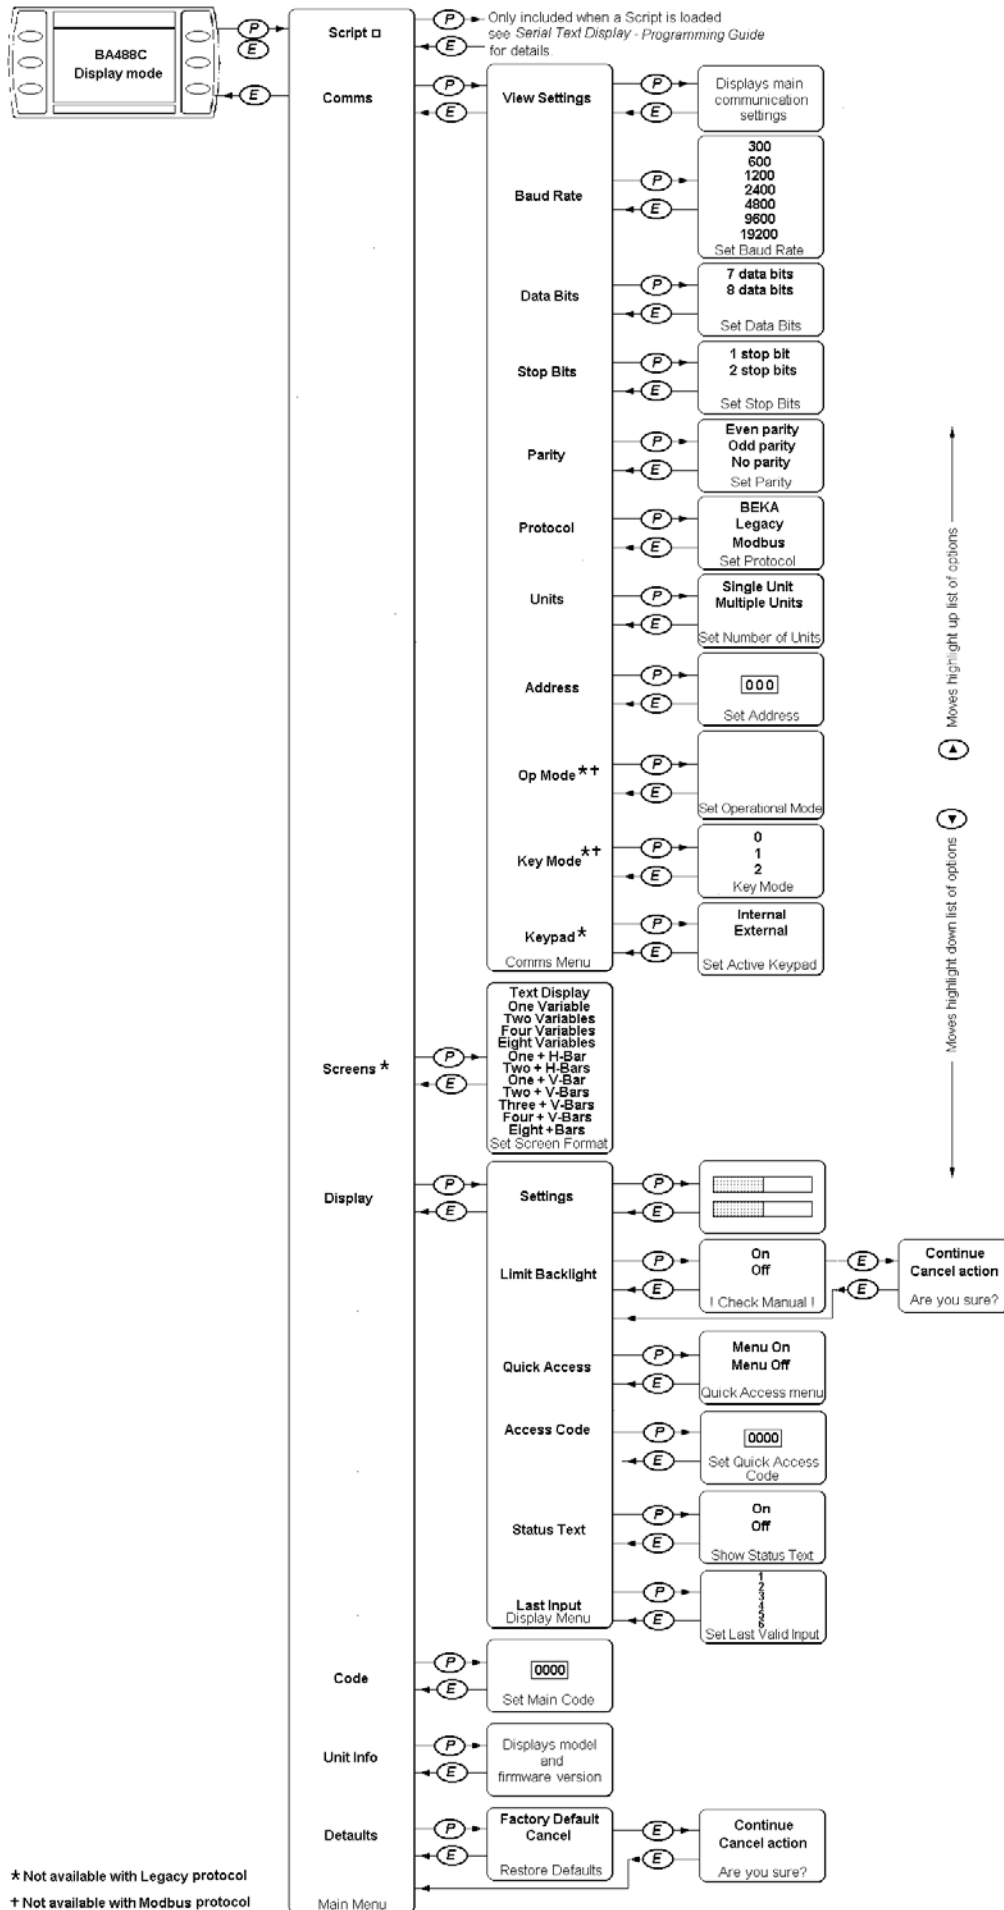

Fig 10 Structure of Configuration Menu
The BA488C is configured via four of the front panel push-buttons. All the configuration functions are contained in an easy to use menu shown in Fig 10. Where necessary the sub-menus contain on-screen prompts to guide the user through each adjustment.
This section provides a brief explanation of each configurable function and should be read in conjunction with Fig 10.
Structure	Fig 10
- To set the instrument's basic communications parameters enter the configuration menu by pressing the *P* and *E* push-buttons simultaneously. Fig 10 shows the menu structure and navigation.